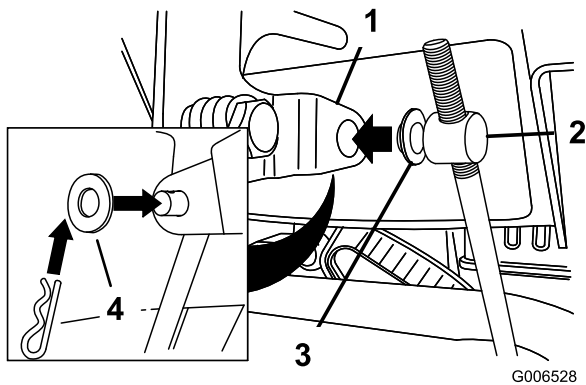

Figure 12
3. Remove the hairpin cotter and the outer washer from the trunnion on the upper end of the speed-control rod (Figure 12).
Note: To make installation easier, leave the flat washer on the trunnion (Figure 12).
6. Lift up on the speed-control rod and insert the trunnion into the hole in the speed-selector lever (Figure 12).
- B. Disconnect the trunnion from the speed-selector lever (Figure 12).
- C. Turn the trunnion downward (clockwise) on the speed-control rod (Figure 12).
- D. Connect the trunnion to the speed-selector lever (Figure 12).
- C. Turn the trunnion upward (counterclockwise) on the speed-control rod (Figure 12).